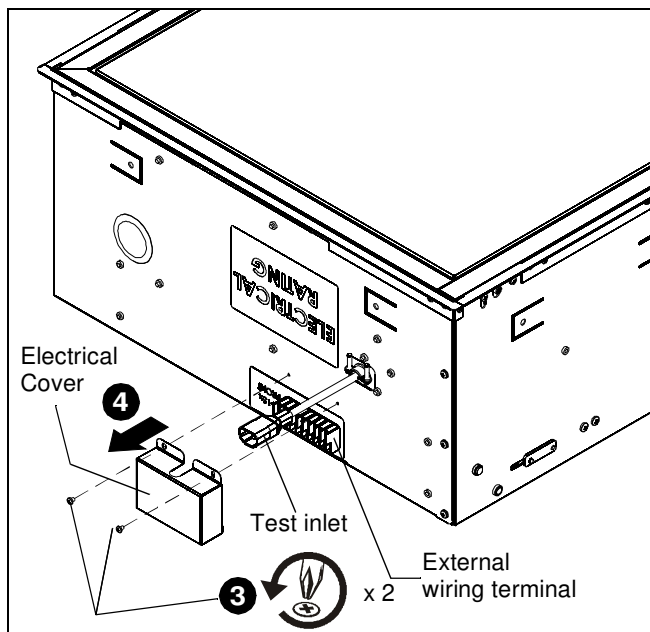
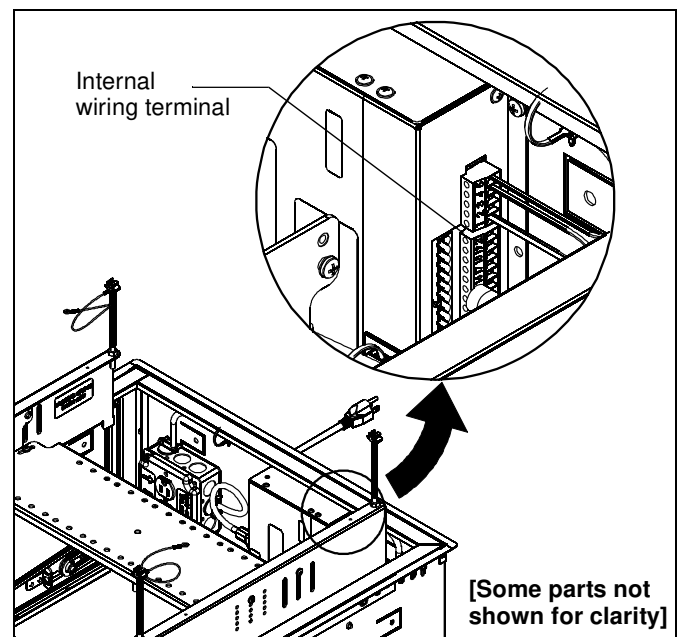

Figure 2
Figure 4
3. Remove and save two screws holding side electrical cover in place. (See Figure 2)
4. Remove electrical cover. (See Figure 2)
NOTE: (See Figure 2) for location of external wiring terminal. (See Figure 4) for location of internal wiring terminal.